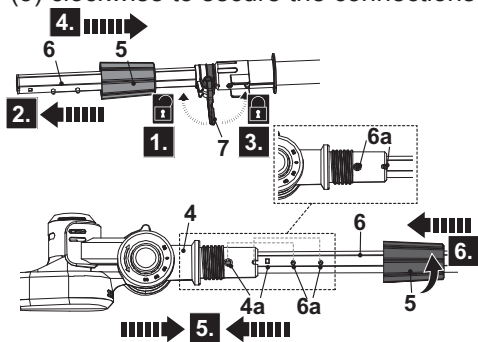

Fig. 1
1. Loosen the locking lever (7) (Fig. 1, step 1) and pull out the pole extension (6) (Fig. 1, step 2), then fasten the locking lever (7) (Fig. 1, step 3).
2. Move the locking sleeve (5) back to the pole extension (Fig. 1, step 4).
3. Align the pole extension (6) with the pole support (4) and insert it. Make sure the pins (6a) snap in the bores (4a) for reliable connection (Fig. 1, step 5).
4. Fit the locking sleeve (5) on the thread of pole support (4) and tighten the locking sleeve (5) clockwise to secure the connections (Fig. 1, step 6).